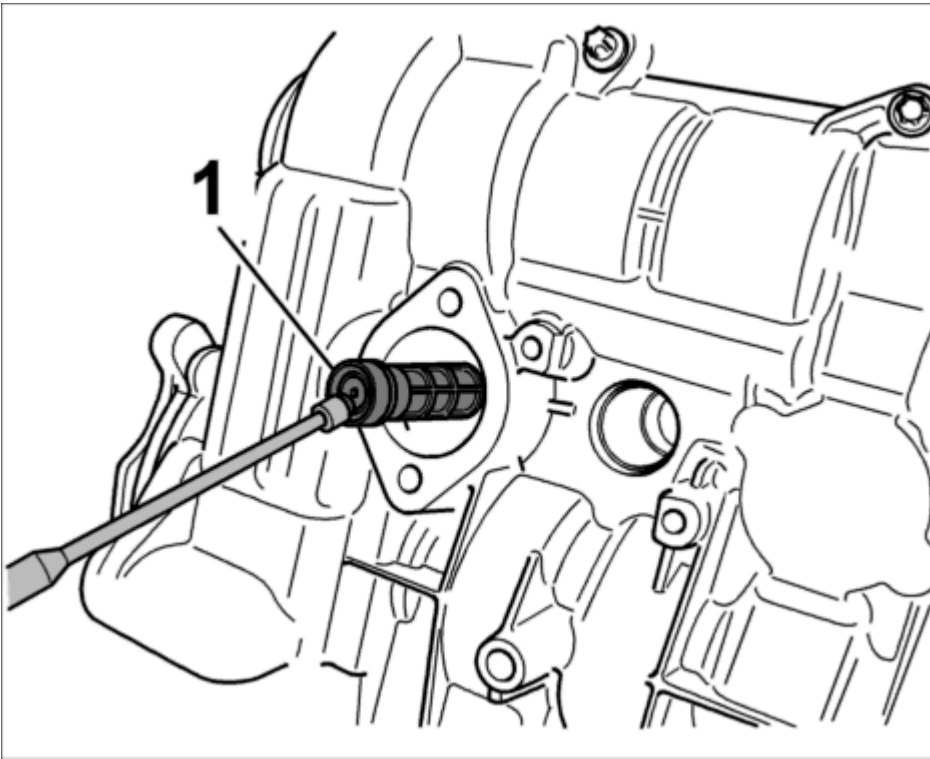

Fig. 164: Oil strainer hydraulic valve NVS
1. Using a bar magnet, fit a cleaned or new oil strainer into the cylinder bore -1- . Pay attention to the installation position. See **Fig. 164**.